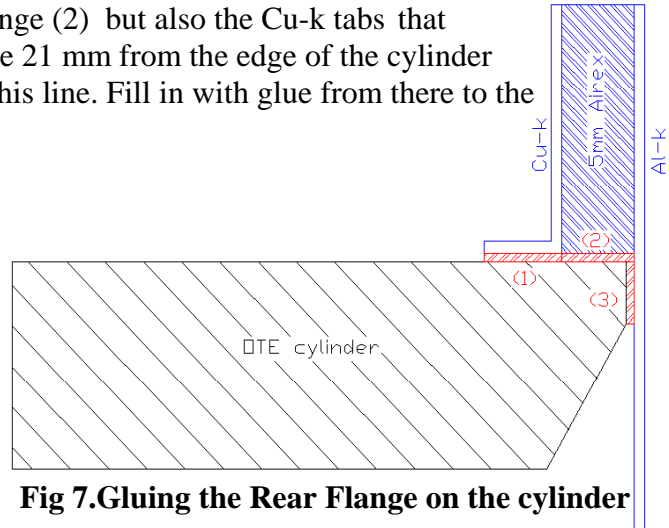

Fig 7. Gluing the Rear Flange on the cylinder
1. Place the Rear Flange on a flat surface and add glue on the 5 mm thickness Airex that will contact the cylinder. This strip is visible between the Al-k and the Cu-k. Glue n° (2) on Fig 7.
2. Add glue on the cylinder. We have to fill with glue a surface covering not only the Airex from the Rear Flange (2) but also the Cu-k tabs that projects over it (1). Measure 21 mm from the edge of the cylinder and place a tape following this line. Fill in with glue from there to the edge of the cylinder.